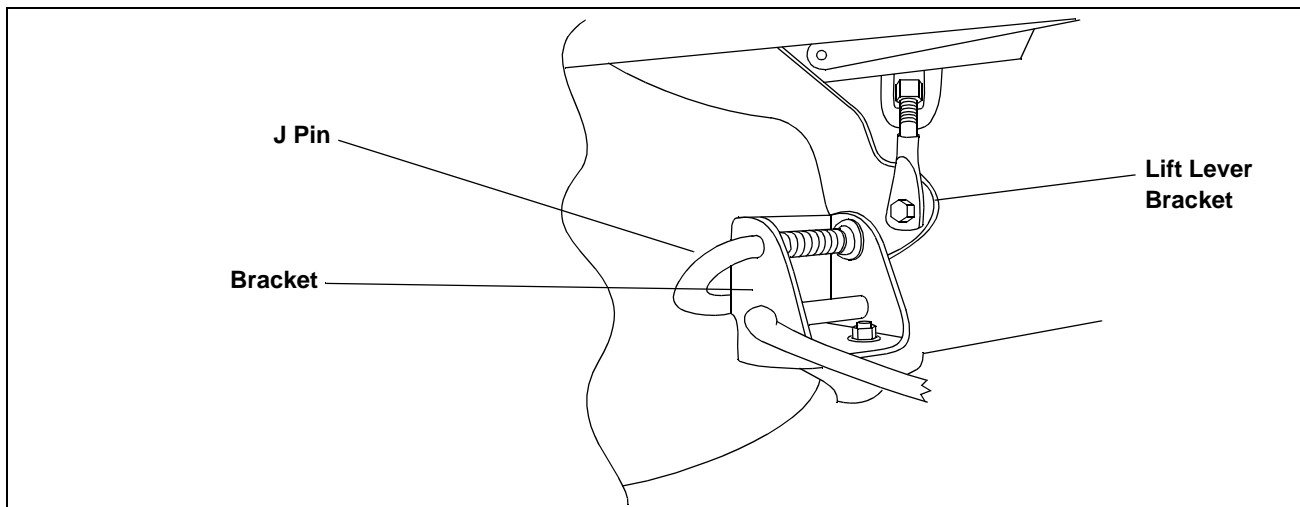

Figure 27
7. Align the mower deck so the Lift Lever Bracket aligns with the bracket on the mower deck. (See Figure 27)
9. Release the J-pin so that it goes through both holes of the bracket. (See Figure 27)